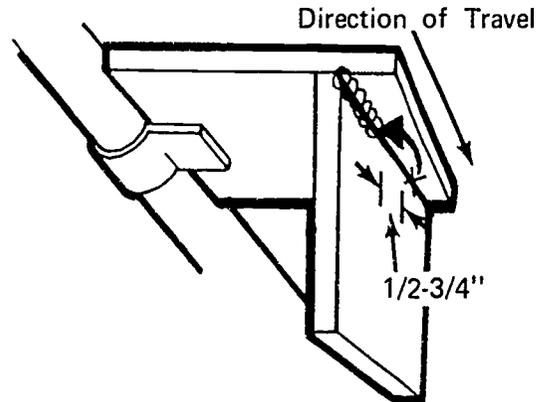

FIGURE 5
- K. To restart arc, move gun $1/2''$ to $3/4''$ down joint in front of weld bead, start arc, move electrode back to leading edge of weld bead, and begin welding (Figure 5)